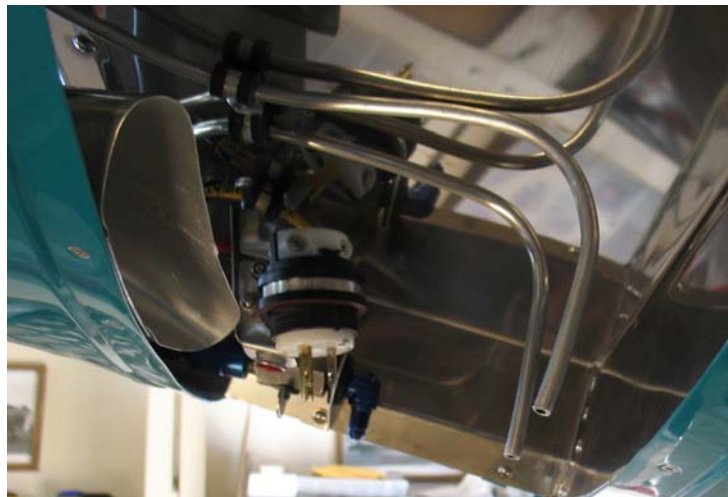

Figure 4-9 Shore power plug and indicator mounted on bracket in lower cowl opening
2. Determine location and method for mounting of shoreline power plug, system grounding on engine, circuit protection, and indicator light (Figures 4-9, 4-11 and 4-12) and install. Optional shore power kits are available separately (Figure 4-7).
16 - Route back to shore power plug and connect to indicator light (Figure 4-9 and 4-12)